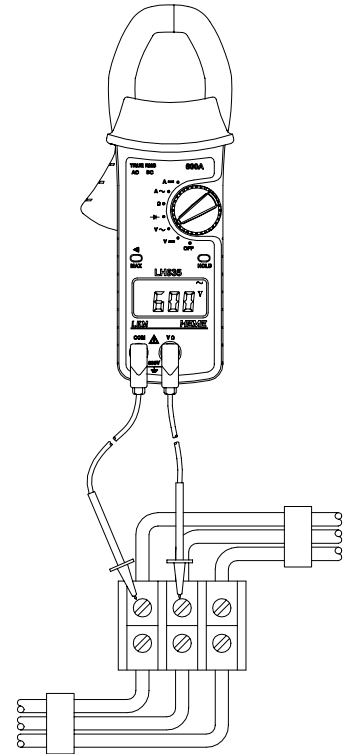

Fig. 3
- Apply the test leads to the circuit under test and read the displayed voltage. See Fig. 3